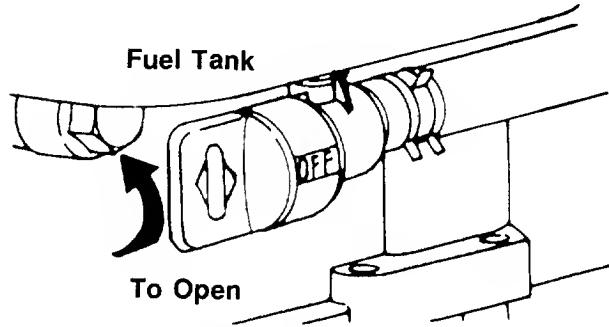
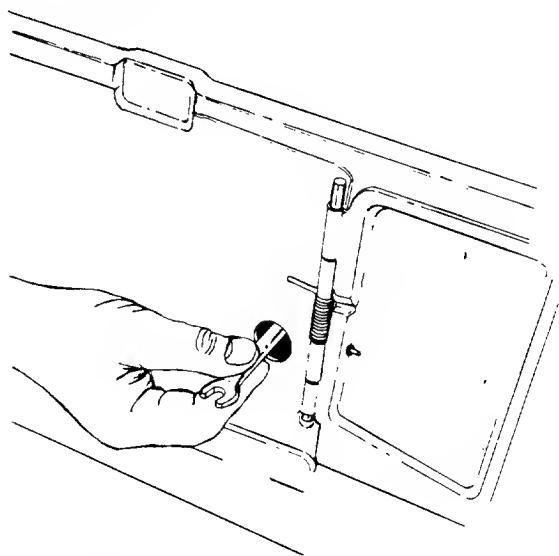

FIGURE 20.—Models 166R and 176R
FIGURE 21.—Model 176R Only
- Models 166R and 176R only:** The fuel shut-off valve is located beneath the fuel tank. On Model 176R, an access hole is provided in the catcher panel. The fuel shut-off valve should be in the open position. See figure 20. Open fuel shut-off valve using a wrench if it is closed. See figure 21.